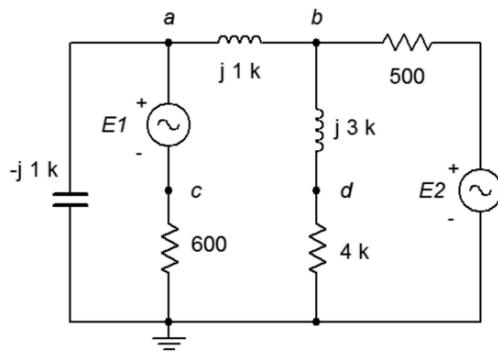

Figure 6.5
- Given the circuit in Figure 6.5, use mesh analysis to determine  $v_{cd}$ .  $E1 = 0.1\angle 0^\circ$ ,  $E2 = 0.5\angle 0^\circ$ .
- Use mesh analysis to find the current through the  $600 \Omega$  resistor in the circuit of Figure 6.5.  $E1 = 9\angle 0^\circ$ ,  $E2 = 5\angle 40^\circ$ .
50. Given the circuit in Figure 6.5, use nodal analysis to determine  $v_{ad}$ .  $E_1 = 9\angle 0^\circ$ ,  $E_2 = 5\angle 40^\circ$ .